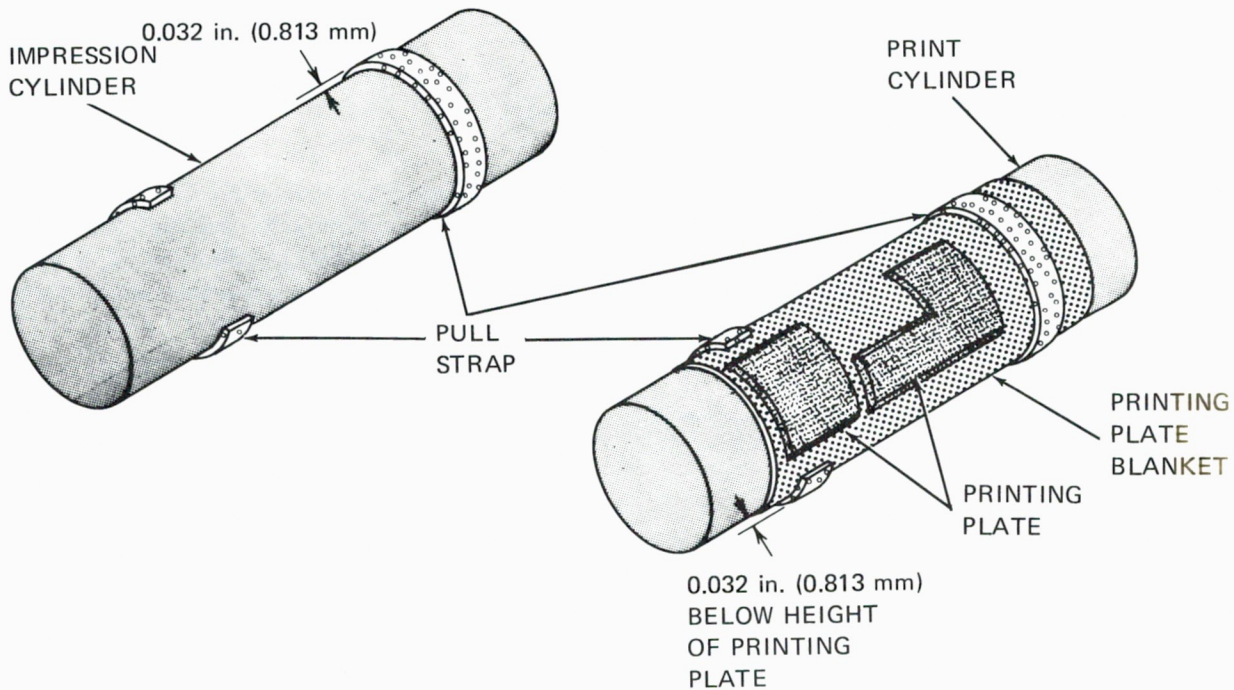

FIGURE 4-15. PULL STRAP INSTALLATION
(1) Installing Pull Straps for Printing
- Step 3) Install straps at strategic locations on the print cylinder (See Figure 4-15).
- Step 4) Install 0.032 in. (0.810 mm) mating straps on the impression cylinder (Figure 4-15) using sticky back tape or an approved adhesive.